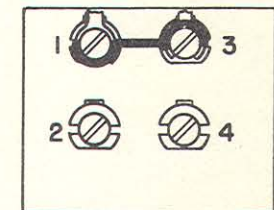

FIG. 2C
The AM-FM antenna terminal board, shown in Figure 2C is located at the right on the rear of the television chassis. Connections are as follows:
**AM RECEPTION** - Excellent local reception may be obtained by the use of only the built-in loop which is installed on all 1-108 chassis models. However, if an outside installation is desirable, connect the antenna lead-in to terminal 2 shown in Figure 2C.
**FM RECEPTION** - Provisions are also made on this chassis for FM reception without the use of an external antenna. For this circuit operation, connect the wire jumper between terminals 1 and 3 as shown in Figure 2C. In this manner, one side of the AC power line is used as an FM antenna. If reception is not satisfactory and an external installation is desirable, remove the jumper from terminals 1 and 3 and connect antenna lead-in to terminals 3 and 4.